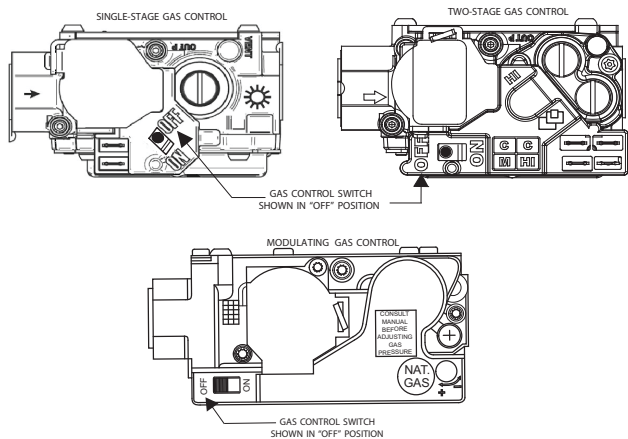

Fig. 11 - Control Switch to OFF
5. Turn the control switch on the gas control to the OFF position and wait five minutes. See Fig. 11. Then smell for gas, including near the floor. If you smell gas, **STOP!** Follow “B” on furnace label. If you don’t smell gas, go to next step.
5. Turn control switch on the gas control to "OFF" position. See Fig. 11.